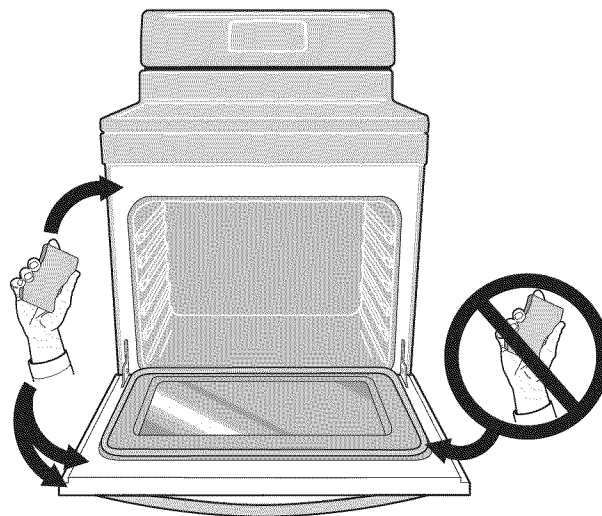

Fig. 15 Areas to clean and to avoid
- Do not use oven cleaners or oven protective coatings in or around any part of the oven interior. Clean any soil from the oven frame, the door liner outside the oven door gasket and the small area at the front center of the oven bottom (Fig. 15, on page 20). These areas heat sufficiently to burn soil on. Clean using soap and water prior to starting Self Clean.